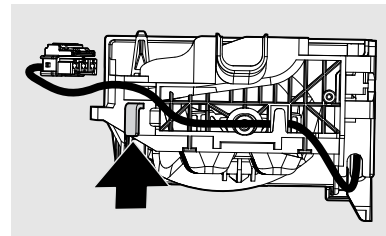

Figure 5
6. Unhook one loop of the ice maker harness. See Figure 5.